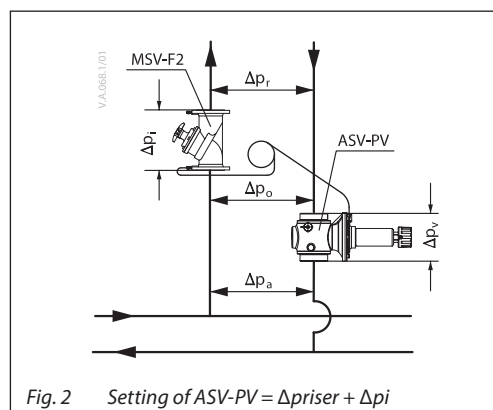

Fig. 2 Setting of ASV-PV = $\Delta p_{riser} + \Delta p_i$
- partner valve inside control loop (Fig. 2). Offers flow limitation on the riser however part of the controlled pressure range is used by pressure drop on partner valve (Δp_i). It is recommended when flow limitation on each terminal unit is not possible.